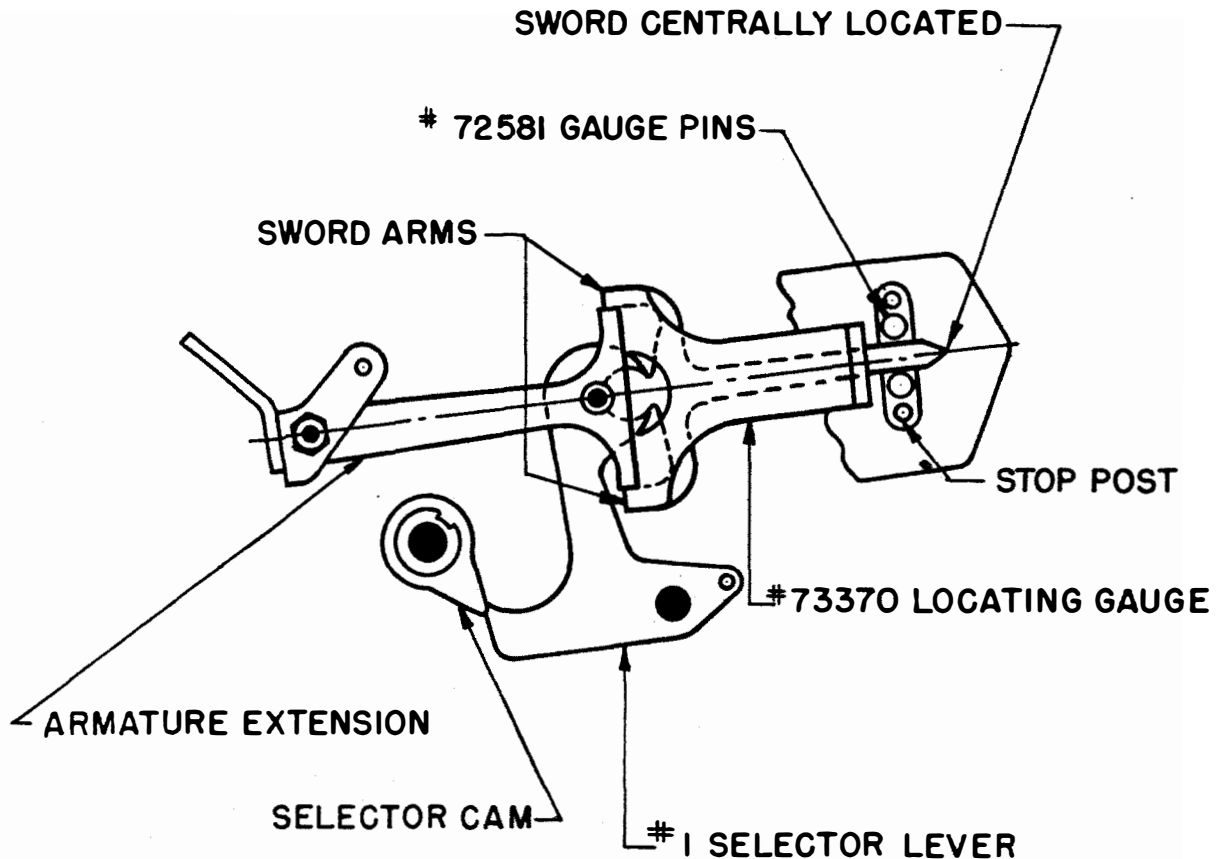
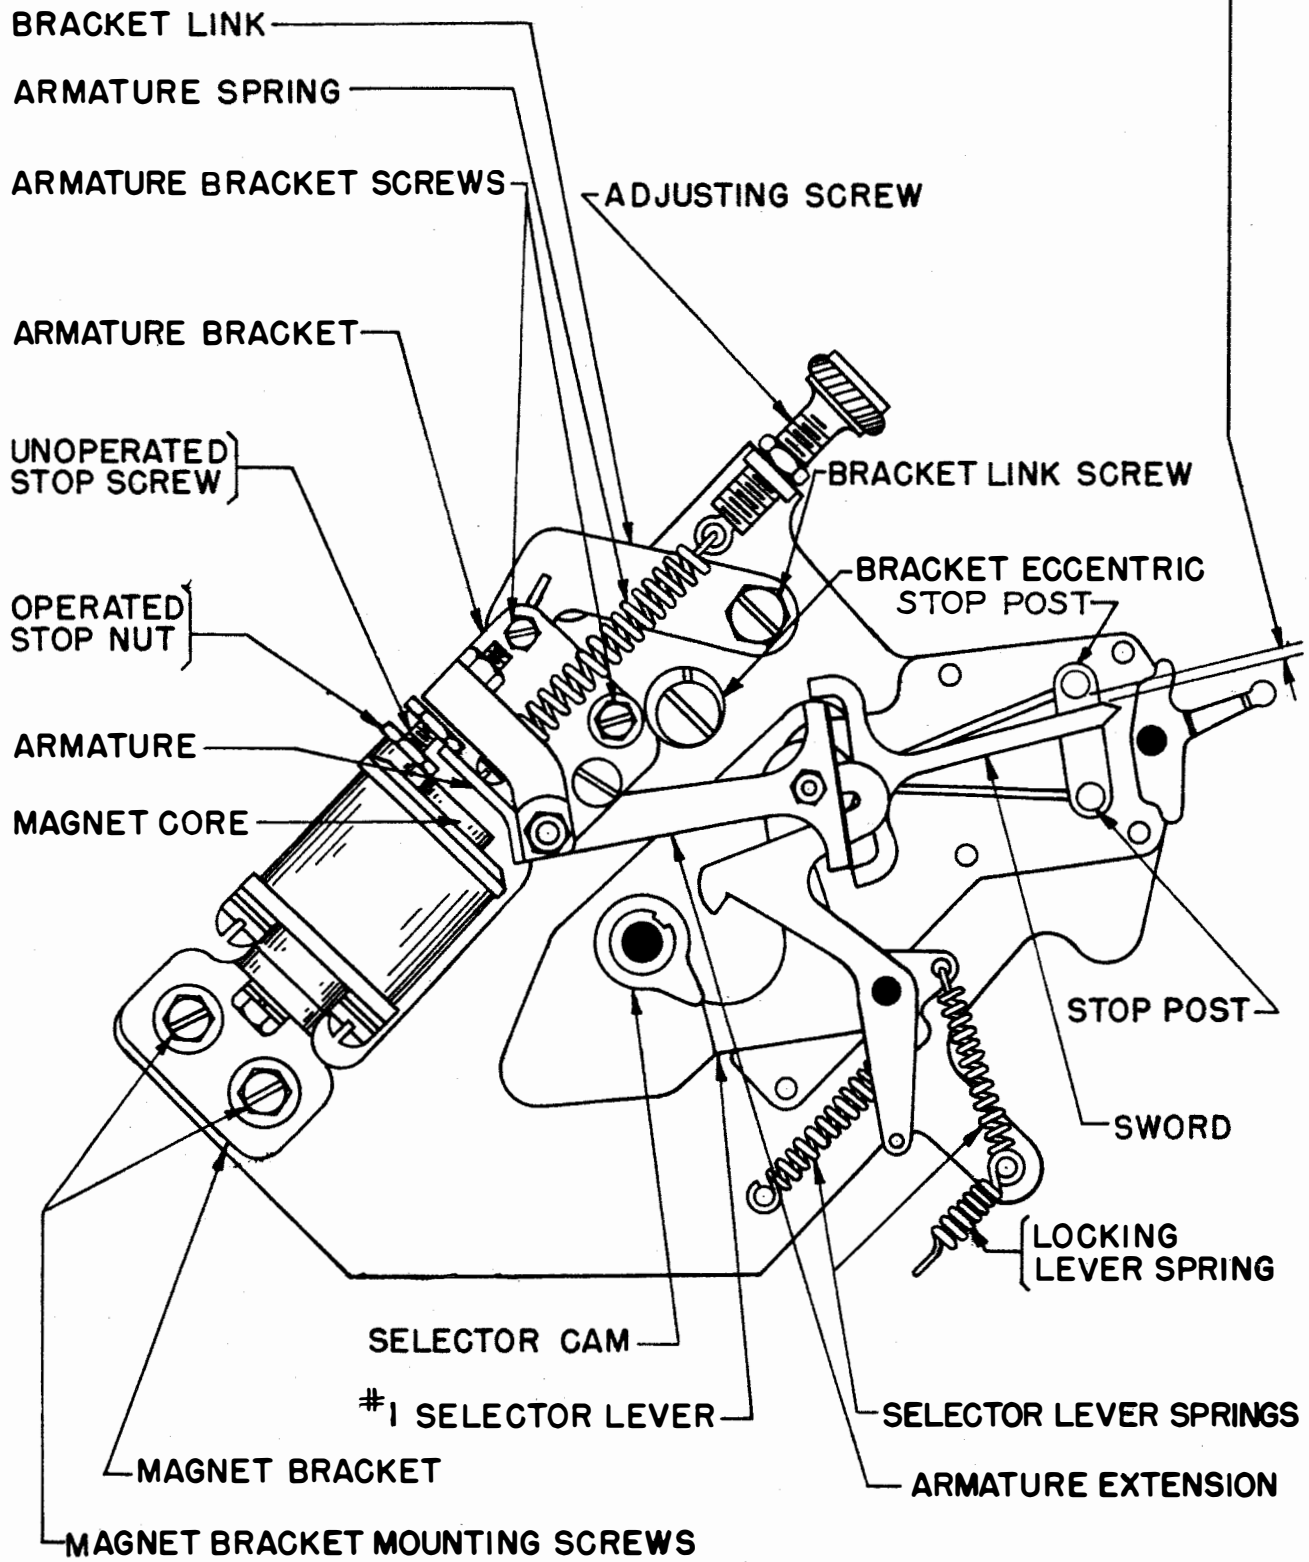

Figure 15
Figure 16
swords are held centrally located between the stop posts with TP72581 gauge pins (See Figure 15.)
To Adjust 1: Unhook the locking-lever spring; loosen the magnet and armature-bracket mounting screws and bracket-link screw (see Figure 16); back off the armature stop screw and nut; move the armature-bracket eccentric out of the way; take out the two motor stoplever-bracket mounting screws and lift out the bracket on units so equipped; rotate the camsleeve until the No. 1 selector lever rests on the peak of its cam; place the armature so that its extensions are between the sword arms and insert TP72581 gauge pins between the posts and swords as in Figure 15; place a TP73370 locating gauge over the end of the No. 1* sword so that the legs of the gauge are against the ends of the sword arms, move the armature bracket to a position which will bring the end of the armature extension flush against the flat surface between the
not more than 0.040 inch, as indicated in Figure 16, between the sword arm and the stop post. Repeat the procedure with the marking arm against the armature extension and move the armature from its operated position.
clamping screws are tightened and provided the link screw is not loosened. (See Figure 16.)
To Adjust the upper or left arm clearance (Note 1), position the armature stop screw with the armature unoperated; to adjust the lower or right arm clearance (Note 1), reposition the armature stop nut with the armature operated. If either clearance is changed, recheck clearance of the other arm. (See Figure 16.)
To Adjust: Position the selector-armature spring adjusting screw. (See Figure 16.)
2.23 Magnet Bracket (pulling magnet): Magnet-core ends should be approximately parallel to the armature, as gauged by eye, and should have a clearance between the core ends and the armature, when the armature is held in the operated position, as follows (see Figure 16 for identification of parts): old-style armature with nonmagnetic antifreeze strip, minimum 0.002 inch, maximum 0.007 inch; new-style chromium-plated armature, minimum 0.003 inch, maximum 0.010 inch; and 20-type apparatus, some to 0.004.